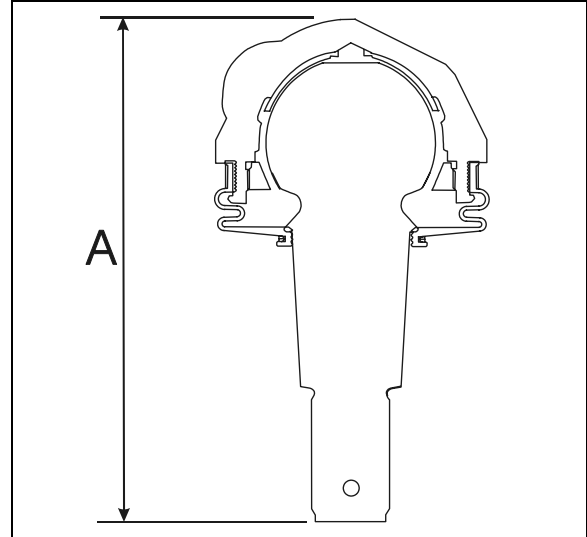

FIGURE 28: UPPER A-ARM CENTRAL BALL JOINT 16116
2. Using a caliper, measure dimension A on figure 28.